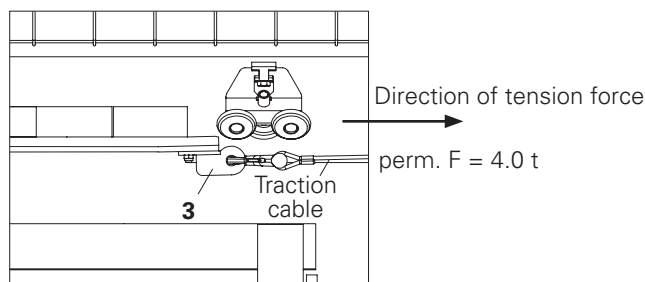

Fig. 20
Attach the traction cable to the lug of the Travelling Nose 25-2 VARIOKIT (3). (Fig. 20)